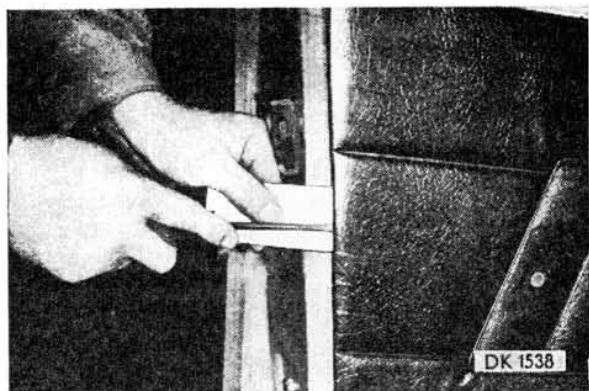

Fig. 14.5/1 - Prising off Door Panel
The inner door mechanisms, locks, window wind-up mechanisms, door limiters, and windows can be removed and/or adjusted only after having first removed the inner door handles, the arm-rests, the door pulls (of Škoda 105 S), and the door lining panel including the insulating liner – see Fig. 14.5/1.
- Remove the door lining panel. Using a suitable tool with a pad (see Fig. 14.5/1), remove the fastening clips (flexible spacing pins) beginning midway of the door panel (of the front and rear doors), and proceed along its entire circumference.
When it is raining or when washing the car, water runs down the glass and penetrates into the inner space of the door. The foil is supposed to prevent the forming of under-pressure in the car interior and to prevent the water from soaking the interior trims and running down into the car. Therefore, it has to be stuck on by rubber cement as shown in Figs. 14.5/2 and 14.5/3 (cross hatching). First slip the lower part of the insulation (foil), the inner end, inside the door, and then apply a sealing compound on to the door inner metal-sheet panel and the insulation as indicated in the illustration (black dots).